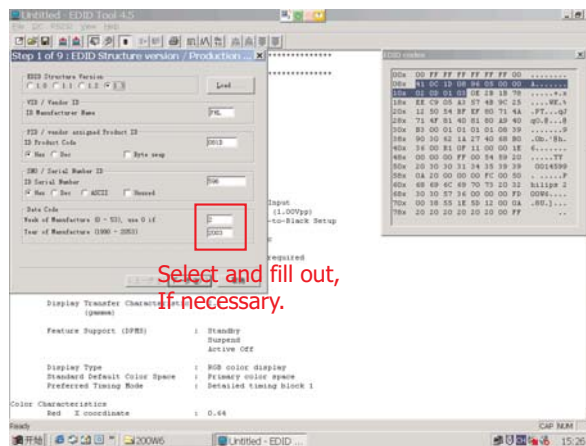

Fig. 15
- Click  (new function) icon from the tool bar, bring up Step 1 of 9 as shown in Fig. 15. EDID45 DDC application provides the function selection and text change (select & fill out) from Step 1 to Step 9.